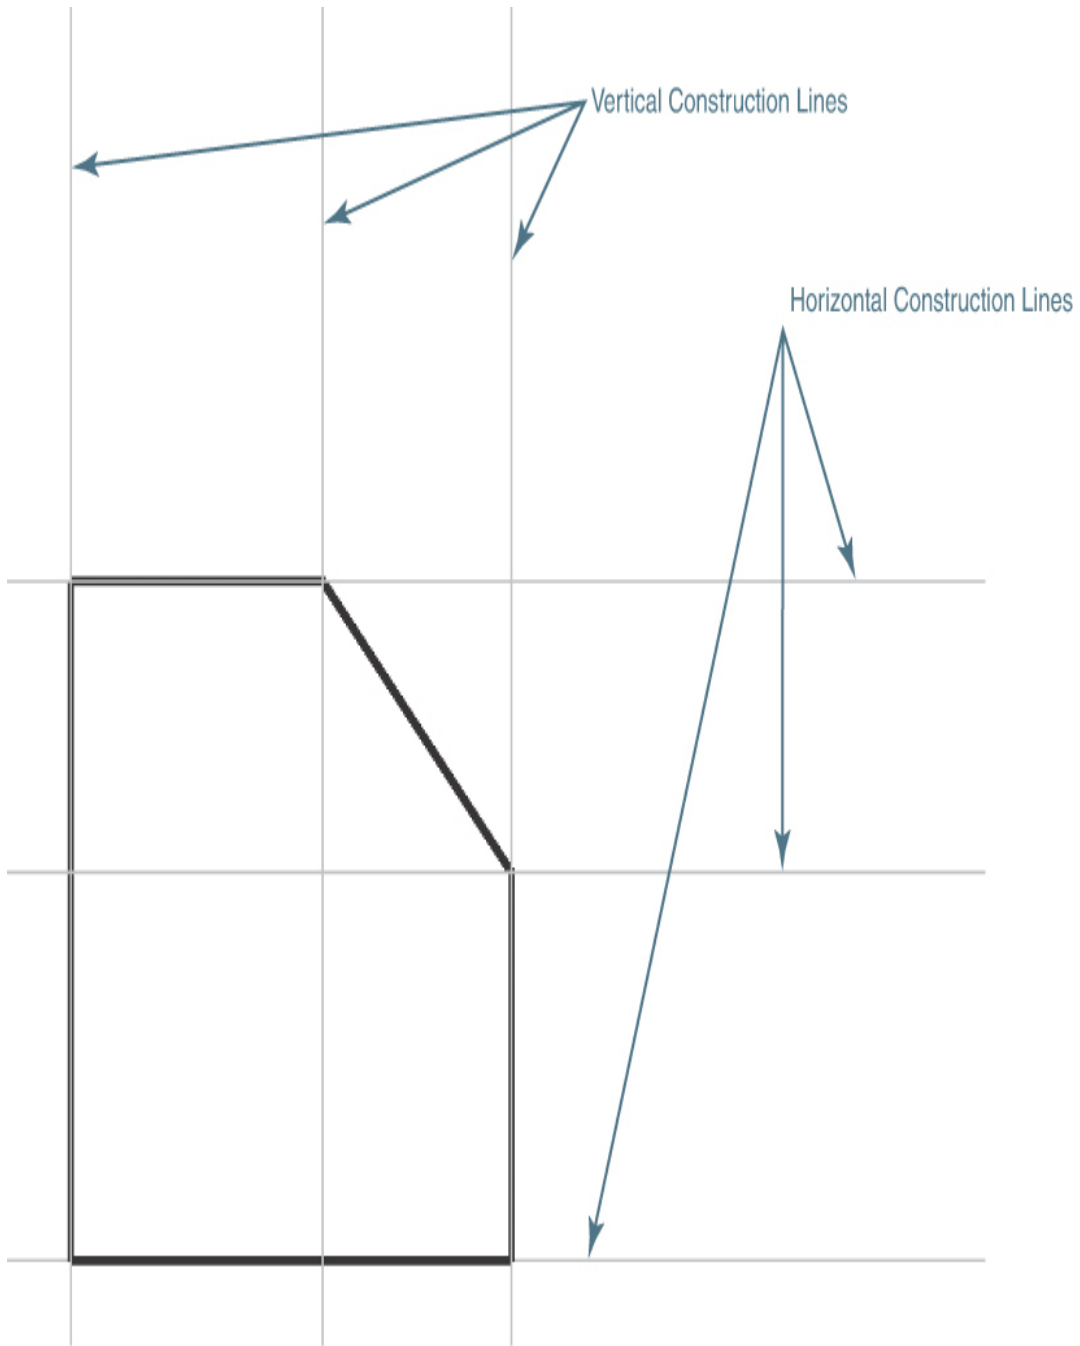

Figure 5-62
- 15** Save your drawing as **CH05_EXERCISE11**. Your drawing should look like Figure 5-62.